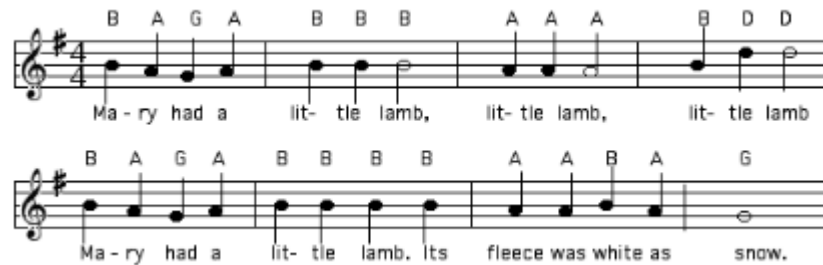

Figure 10.4.3.1: Music for “Mary and a little lamb”
6. Music is written by defining single notes or combinations of notes that are played for a certain duration. These are shown on a five-line “staff.” There are a lot more details beyond that, but that is enough for now. An example is the sheet music for “Mary had a little lamb” shown in Figure 10.4.3.1.